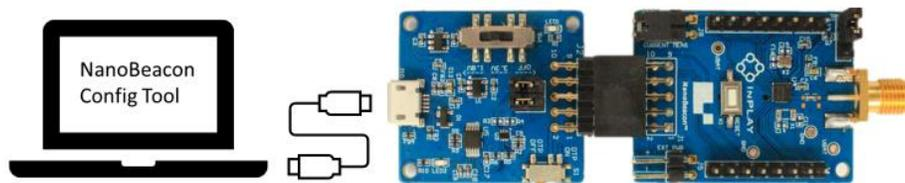

Figure 4 Connect NanoBeacon DK board to programmer board
| FIGURE 4 CONNECT NANOBEACON DK BOARD TO PROGRAMMER BOARD..... | 7 |
Step 1: Insert IN100 NanoBeacon DK board into the programmer board (make sure to follow the orientation as shown in Figure 4).